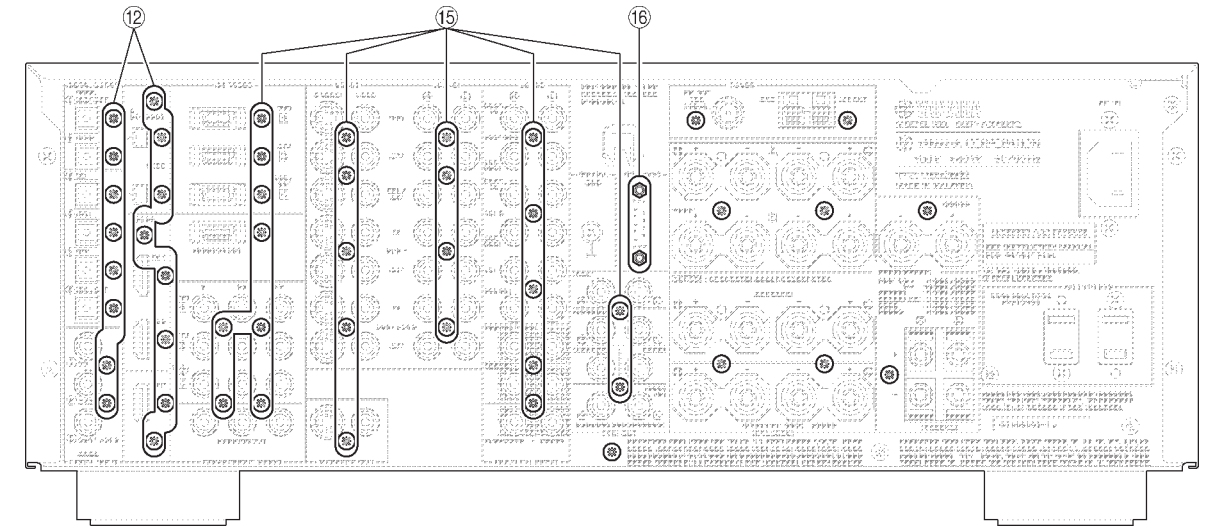

Fig. 4
- d. Remove 16 screws (⑫). (Fig. 4)
- d. ⑫のネジ16本を外します。(Fig. 4)
**6. Removal of CONTROL, FUNCTION (1), (2), (4) ~ (6), INPUT (1), (2), IBOC (U model) P.C.B.s and Tuner (C, R, T, K, A, B, G, L models)**
- a. Remove 25 (U model) / 23 (C, R, T, K, A, B, G, L models) screws (15). (Fig. 4)
- b. Remove 2 jack screws (16). (Fig. 4)
- d. Remove CONTROL, FUNCTION (1), (2), (4) ~ (6), INPUT (1), (2), IBOC (U model) P.C.B.s and Tuner (C, R, T, K, A, B, G, L models).
- a. ⑮のネジ24本を外します。(Fig. 4)
- b. ⑯のジャックスクリュー2本を外します。(Fig. 4)